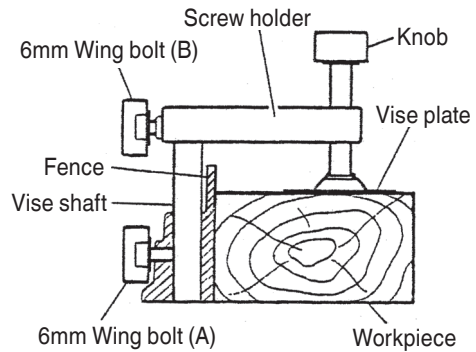

Fig. 15
- (1) The vise assembly can be mounted on either left side of the fence or right side of the fence by loosening the 6mm wing bolt (A).
- (2) The screw holder can be raised or lowered according to the height of the workpiece by loosening the 6mm wing bolt (B). After the adjustment, firmly tighten the 6mm wing bolt (B) and fix the screw holder.
- (3) Turn the upper knob and securely fix the workpiece in position (Fig. 15).